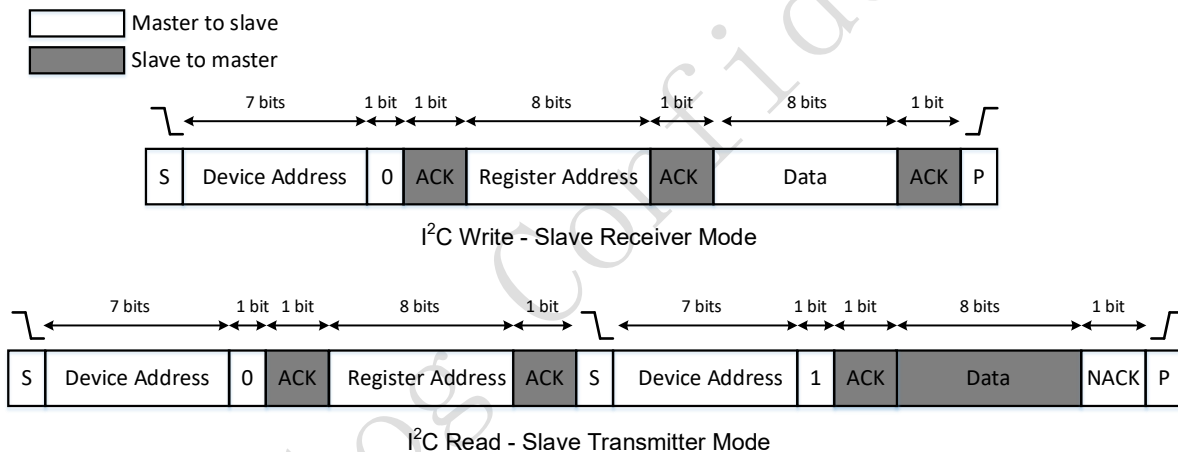

Figure 3, I²C Read/Write operation
1. **Slave Receiver Mode (Write Mode):** Serial data and clock are received through SDA and SCL. After each byte is received an acknowledge bit is transmitted. START and STOP conditions are recognized as the beginning and end of a serial transfer. Address recognition is performed by hardware after reception of the slave address and direction bit (see Figure 3 for Interface). The slave address byte is the first byte received after the